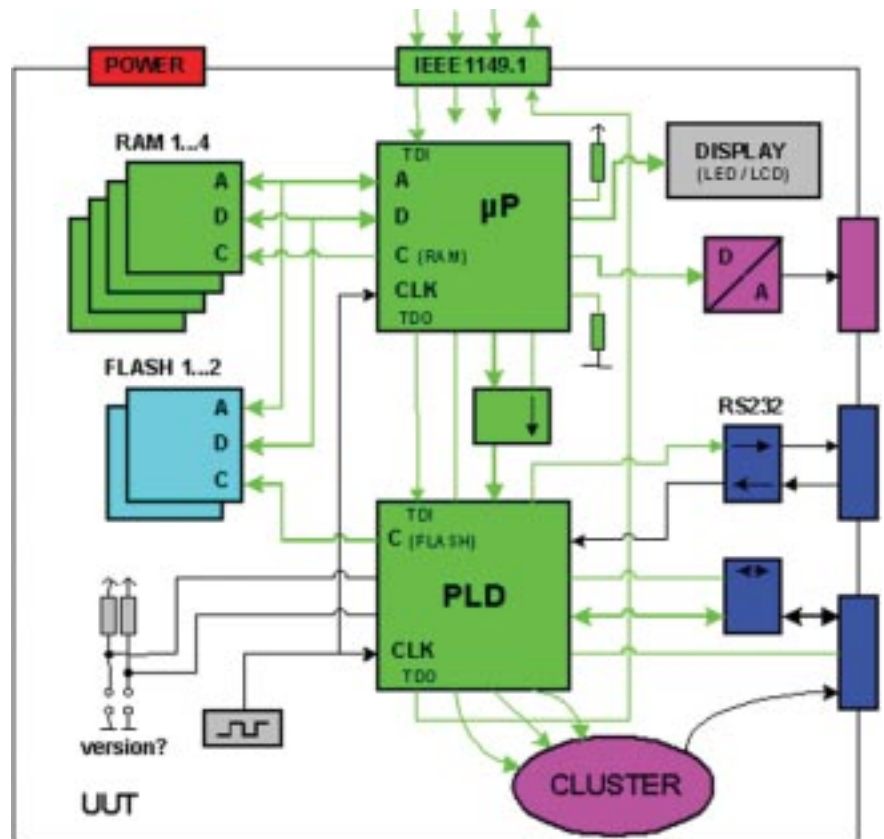

Figure 2
- RAM tests that test storage capabilities for each possible memory type. A RAM test is shown in Figure 2